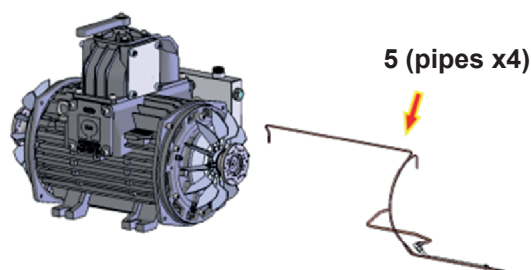

Fig. H.22 - Phase 0060 - part 4
- Remove the oil pipes in question (**pos.5 Fig. H.22**) from the vacuum pump.